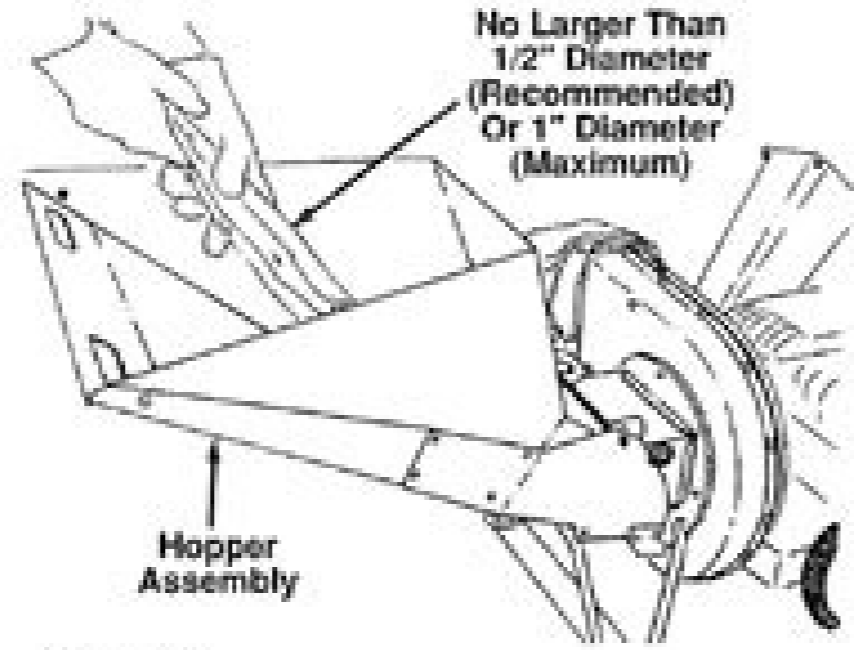

FIGURE 7.
- Leaves and small branches up to 1/2" diameter (recommended) or 1" diameter (maximum) can be fed into the hopper assembly when it is in the raised position. See figure 7. If it becomes necessary to push material into the chipper-shredder, use a small diameter stick—NOT YOUR HANDS. The stick should be small enough that it will be ground up if gets into the impeller assembly.